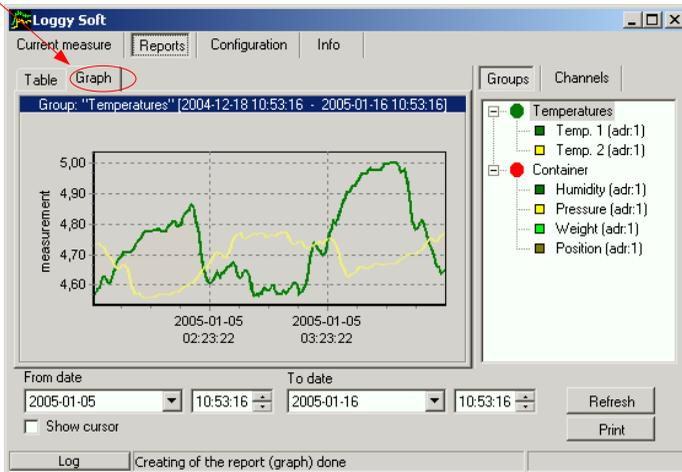

Fig. 3.6. *Reports - Graph* tab
Graph tab (Fig. 3.6) is used for viewing and printing of measurement results recorded by an **PMS-90R** device (e.g. temperature, humidity) in the form of a graph. Measurements from a maximum of five recorded measurement channels can be viewed.
- **graphs area** - plots measured values (e.g. temperature, humidity) in function of time. Each channel is distinguished by a different colour (Fig. 3.6);
- click appropriate tab **Groups** or **Channels** (Fig. 3.6),